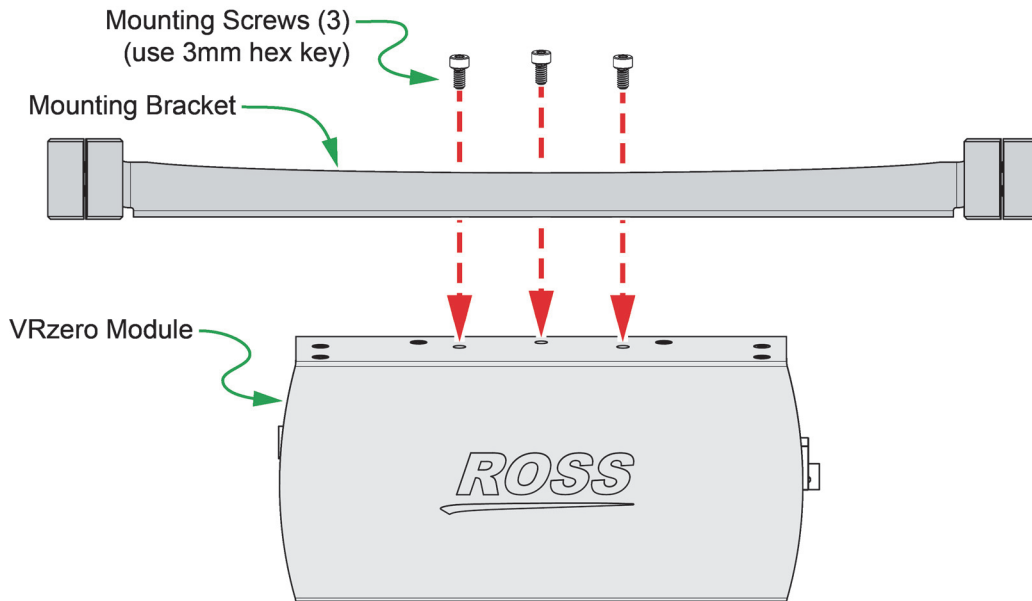

Figure 3.3 - Attaching the Mounting Bracket to the VRzero Module
1. Unpack the VRzero module and its mounting bracket (see **Figure 3.3**).
2. Fasten the bracket to the VRzero module (see **Figure 3.3**):